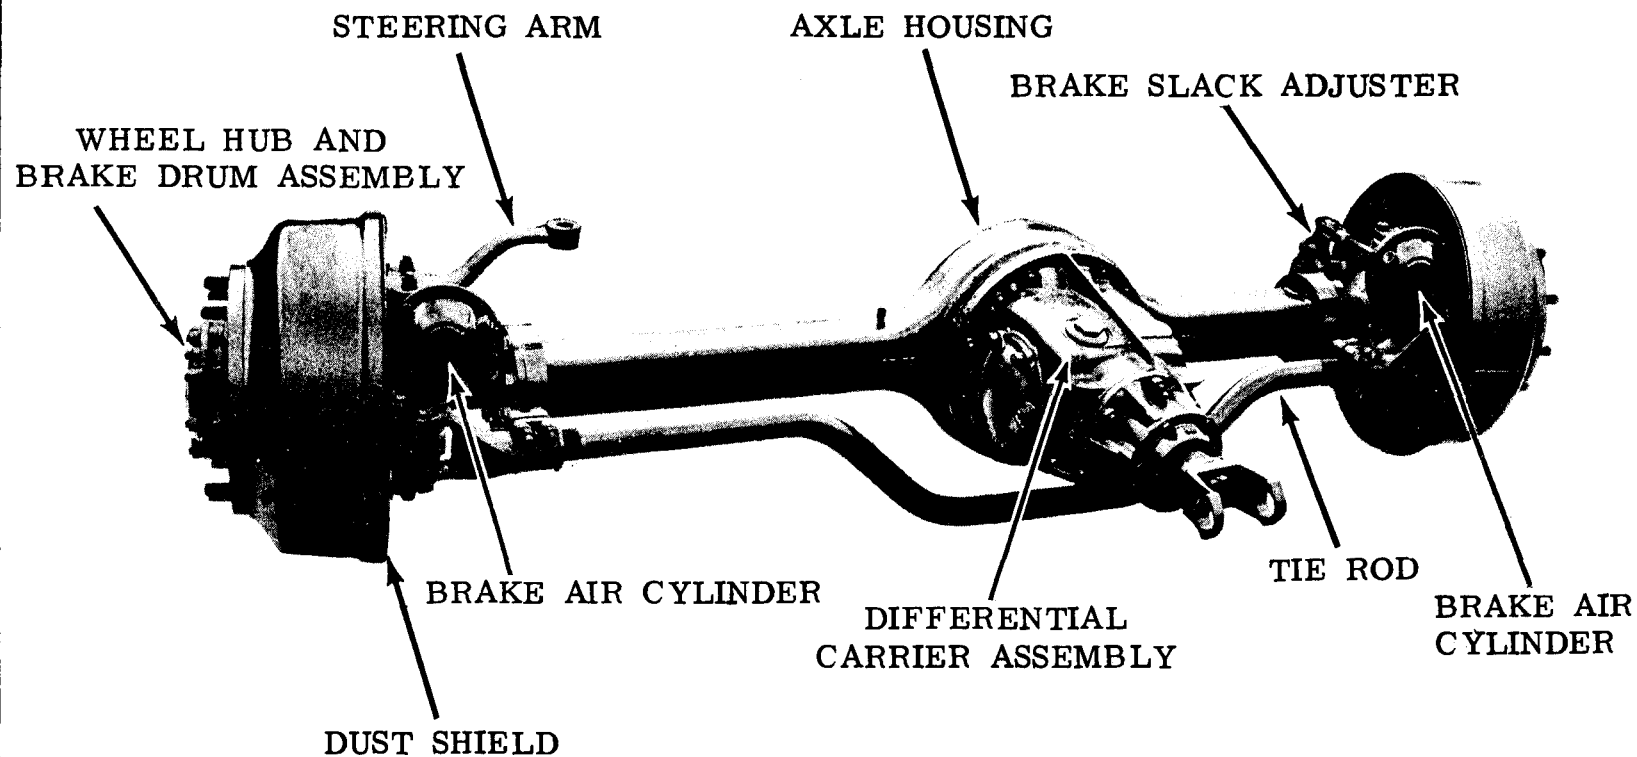
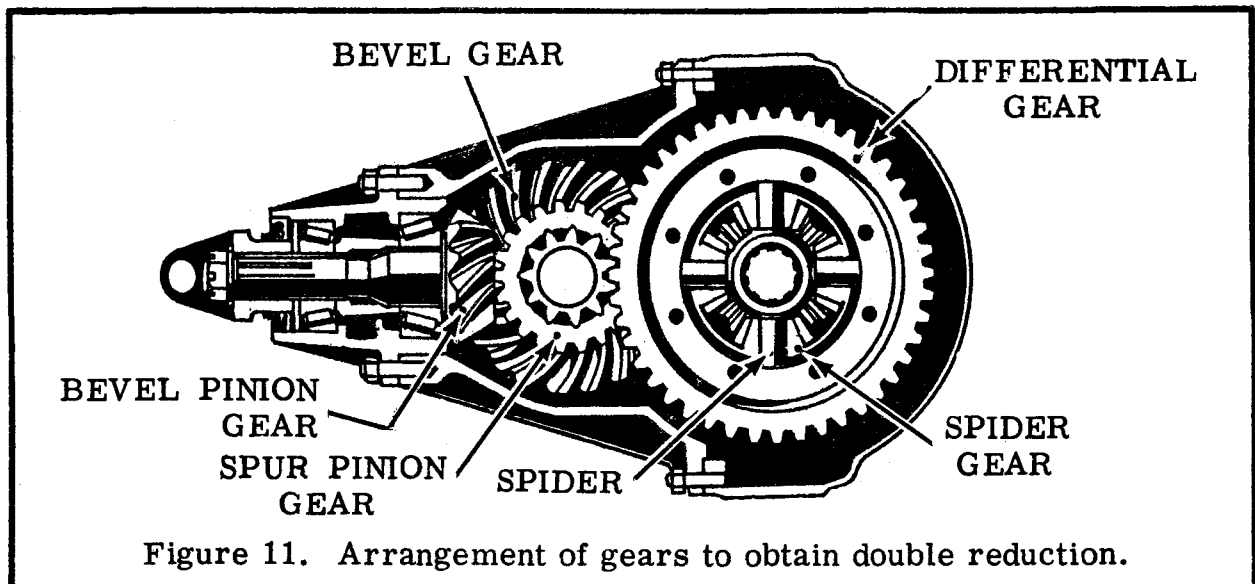

Figure 10. Double reduction banjo type front axle assembly
Figure 11. Arrangement of gears to obtain double reduction.
The double reduction banjo-type front axle (fig. 10) is provided with a differential carrier assembly which is detachable from the axle housing as a unit. The axle is of the full floating type being jointed at the outer ends to permit steering the vehicle. The differential carrier is located to one side of the axle housing to permit the propeller shaft to clear the engine. Double reduction is achieved by four gears arranged as shown in figure 11. The bevel pinion gear drives the bevel gear which, being on a common shaft with the spur pinion gear, drives the differential spur pinion gear which drives the differential gear.
a. Remove Brake Slack Adjuster (fig. 10). Remove the cotter pin and clevis pin that attaches each brake cylinder yoke to the brake slack adjuster. Remove the two nuts and lock washers that attach the brake air cylinder to mounting bracket and remove cylinder. Remove the snap ring that secures each brake slack adjuster to the brake camshaft. Slip the slack adjuster off the brake camshaft. If Hydraulic Brakes are used, Disconnect brake hoses at Frame.